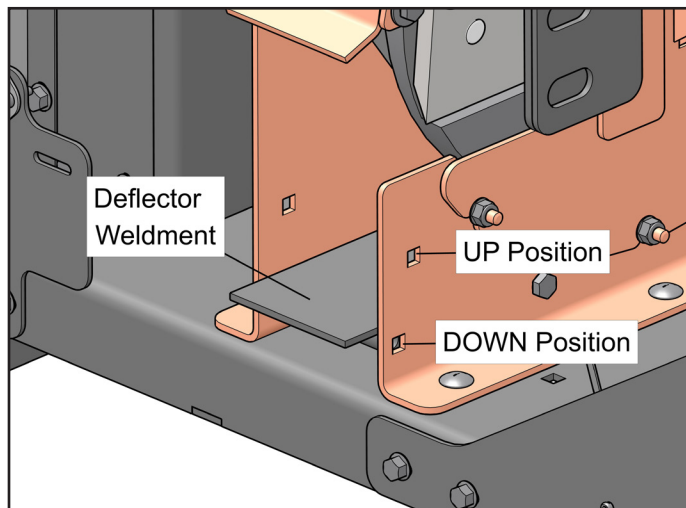

Figure 2.2, Chipper Deflector Weldment
6. With the chipper deflector weldment in the down position (Figure 2.2), place discharge cap assembly (15) onto the housing by aligning the bolt holes of the discharge cap (15) and the bolt holes in the housing. Place the two 3/8" × 5-1/2" bolts (16) through the bolt holes. Secure by adding 3/8" flat washers (17) and nylock nuts (5) to the 3/8" × 5-1/2" bolts (16).